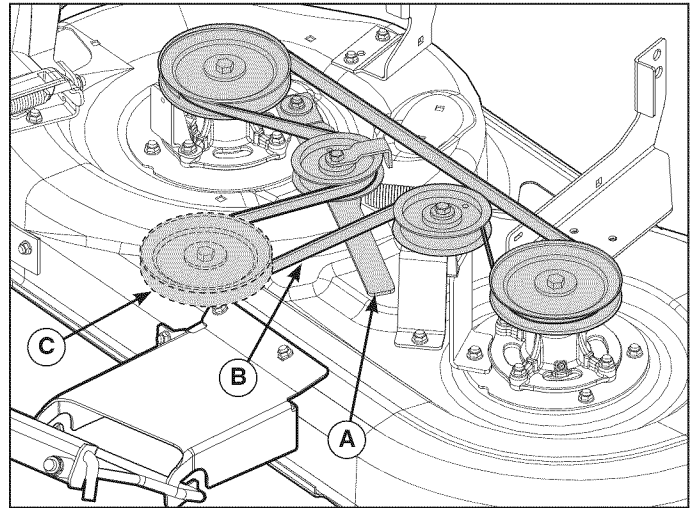

Figure 21
2. Pull the idler pulley lever (A, Figure 21) to relieve belt tension. Remove the belt (B) from the PTO pulley (C).